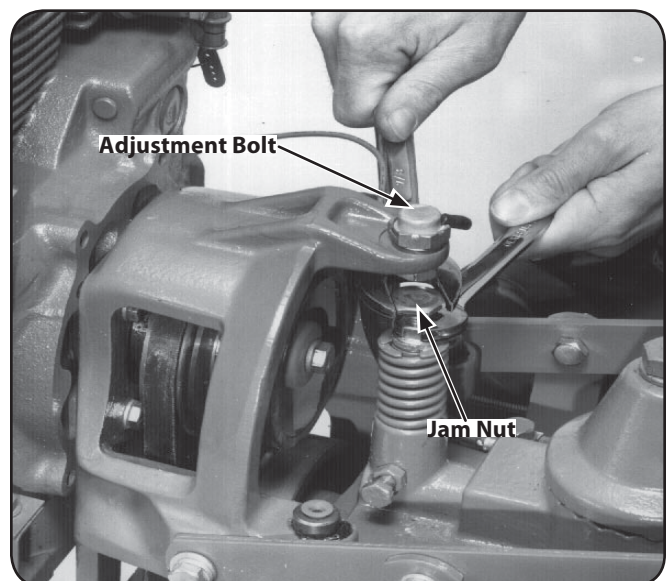

Figure 6-23
5. Place a $\frac{7}{8}$ " wrench on the head of the reverse adjustment bolt and a $\frac{5}{16}$ " wrench on the jam nut below it. See Fig 6-23. Hold the bolt steady while loosening the jam nut three or four turns.
7. Check that the reverse disc is at least $\frac{3}{16}$ " away from the transmission drive pulley. Then hold the reverse adjustment bolt steady with one wrench while tightening the jam nut with a second wrench. See Fig. 6-23.